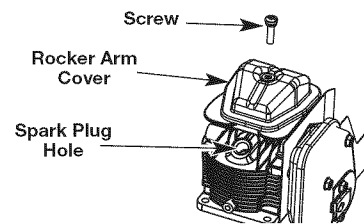

Fig. 31
5. Clean dirt from around the rocker arm cover. Remove the screw holding the rocker arm cover with a large flat blade screwdriver or Torx T-25 bit (Fig. 31). Remove the rocker arm cover and gasket.
- The piston is at the top of its travel. This should be done by looking into the spark plug hole. (Fig. 31)